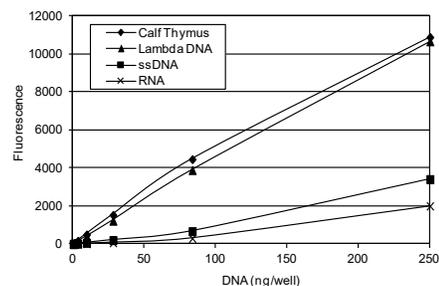

Figure 2. Selectivity of AccuClear® dsDNA quantitation assay for double-stranded DNA compared to single stranded DNA and single-stranded RNA.
AccuClear® Ultra High Sensitivity dsDNA Quantitation Kits provide highly sensitive and accurate DNA quantitation across a broad range of DNA concentrations. Unlike absorbance-based measurements, AccuClear® dye is highly selective for double-stranded DNA over single stranded DNA or RNA (Figure 2). The assay is linear between 0.03 ng and 250 ng of dsDNA per assay (3 pg/uL to 25 ng/uL sample concentration) in 96-well microplate format (Figure 3).
- To determine the unknown DNA concentration generate a standard curve (see Figure 3). Average the triplicate values for each standard sample and subtract the average zero DNA value from each data point. Plot the fluorescence values for the DNA standards on the y-axis and ng/well DNA on the x-axis, and fit a trend line through these points to generate a standard curve with a y-intercept = 0. Use the equation for the standard curve trend line to calculate the amount of unknown DNA in each well ($y = \text{fluorescence}$ and $x = \text{ng DNA per well}$). Note: the standard curve shown in Figure 2 is for reference only. You must generate your own standard curve using your instrument to calculate the amount of DNA in your unknown samples.
Calf thymus DNA can serve as a reference for most plant and animal DNA because it is double-stranded, highly polymerized and is approximately 58% AT (42% GC). Lambda dsDNA yields similar results (Figure 2). You may wish to use a standard similar to your unknown samples in DNA length, structure (i.e., linear vs. circular), or GC content. For bacterial DNA, a species-specific standard may be desired because the GC content varies widely depending on the species. The AccuClear® dsDNA Quantitation Solution is available without standards (cat. no. 31027) for customers who wish to prepare their own standards.